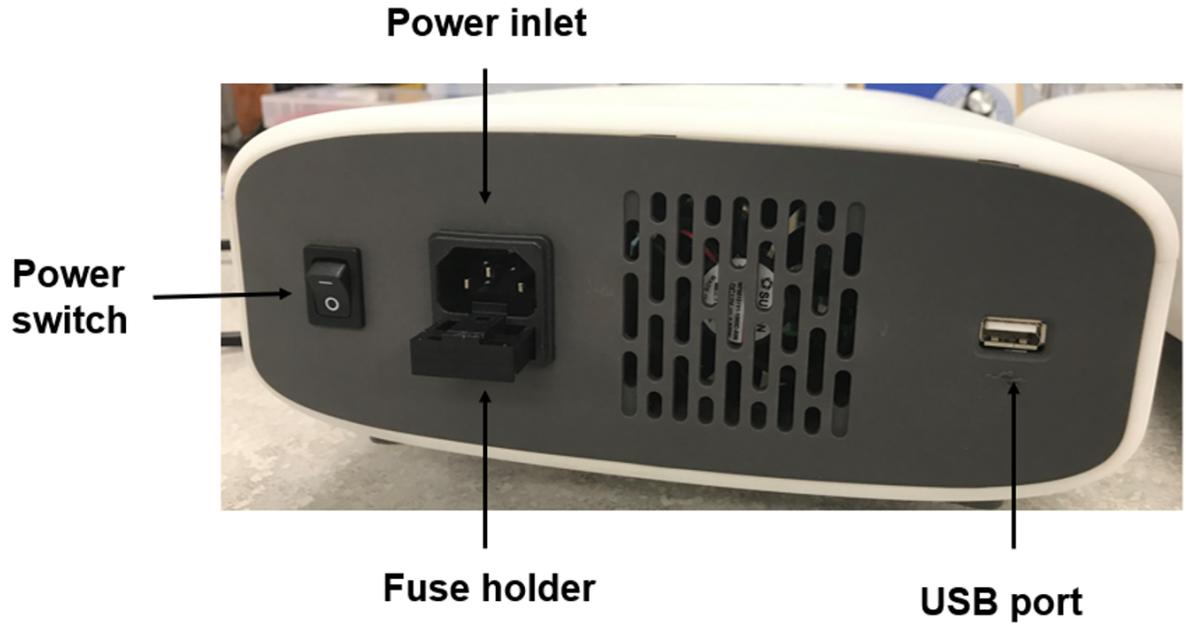

Figure 16 Rearview of PowerEase™ Touch 600W Power Supply
3. Pull the fuse holder out of the compartment and inspect the fuse. If the fuse is burned or there is a break in the fuse element, replace the fuse with an identical type of fuse (T10AH/250 V) as provided in the fuse holder (see Figure 16).